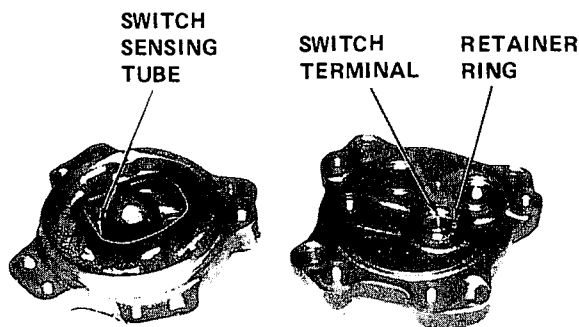

Figure 9B-25 Superheat Shutoff Switch Installed in Rear Head - 6 Cylinder Compressor
2. After the system is discharged, remove the superheat switch retainer ring, Figure 9B-25, using Tool J-5403.